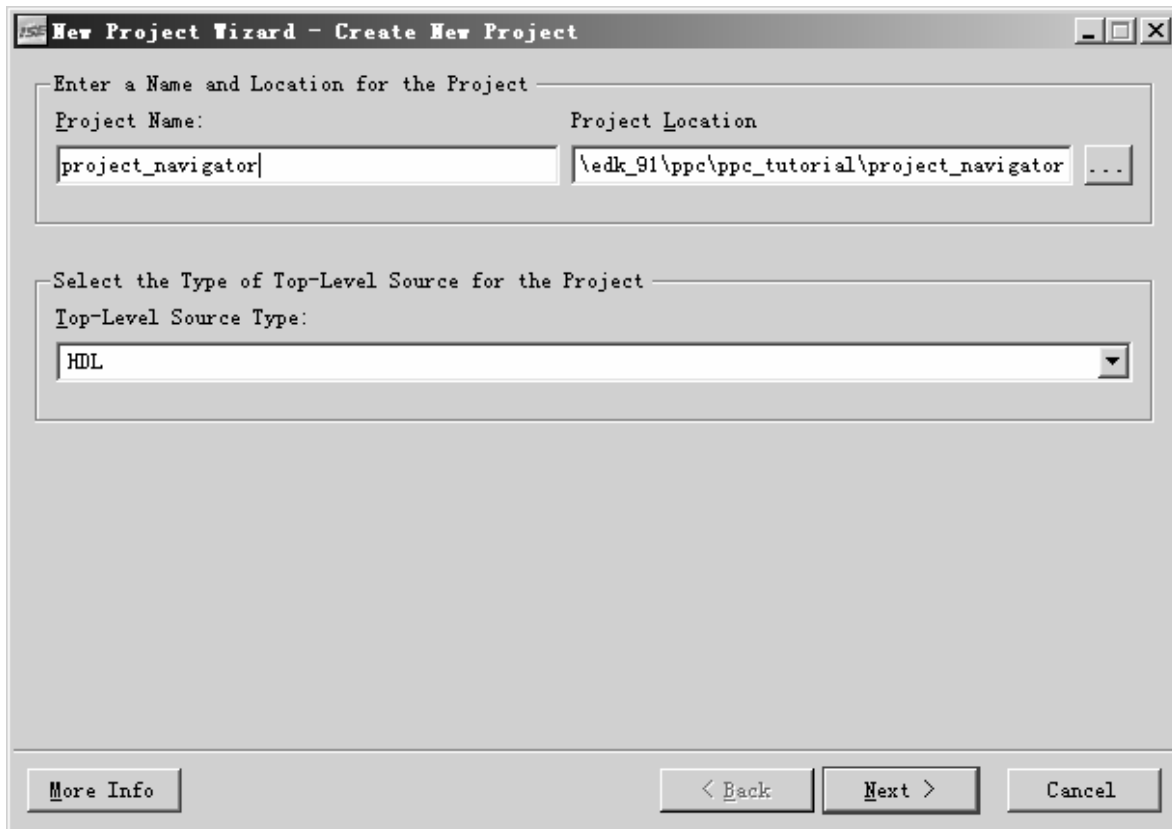

Figure 23: ISE New Project
- In the New Project dialog box shown in Figure 23, browse to the XPS project directory and then enter the Project Name, project_navigator.